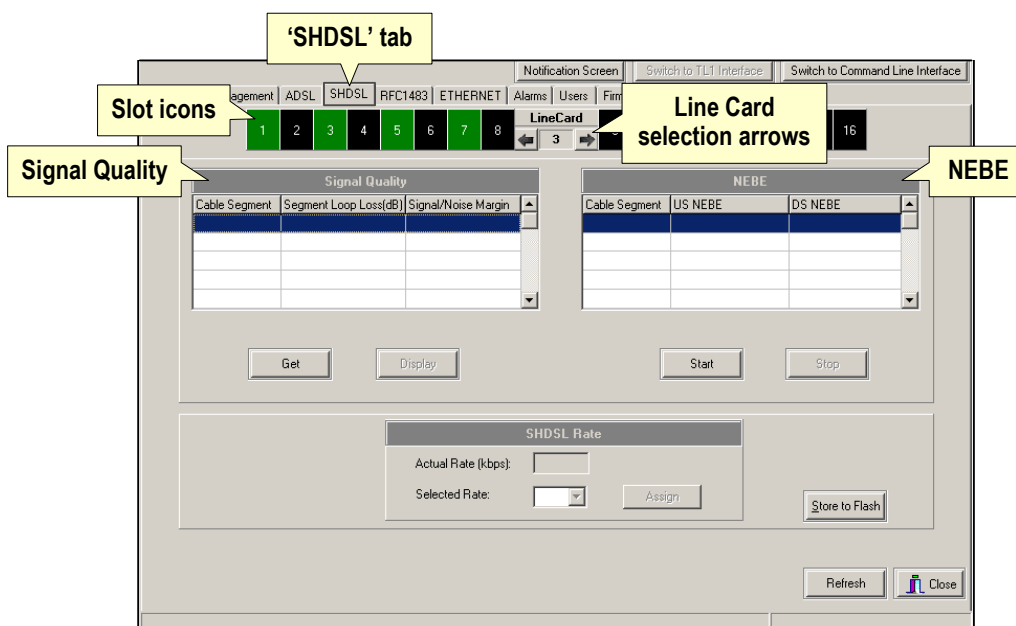

Figure 61 – 'SHDSL' screen
*The **SHDSL** screen (Figure 61) appears.*